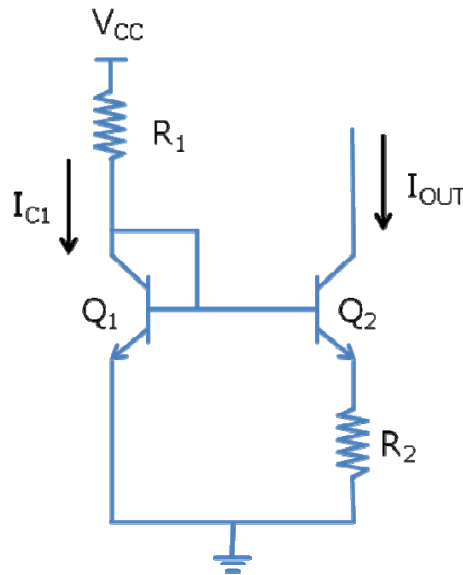

Figure PS5.2
2. Design the Widlar current source shown in Figure PS5.2 to produce 5 μA output current. Use identical transistors, $V_{CC} = 30\text{V}$, and $R_1 = 30\text{ k}\Omega$. Find the output resistance.